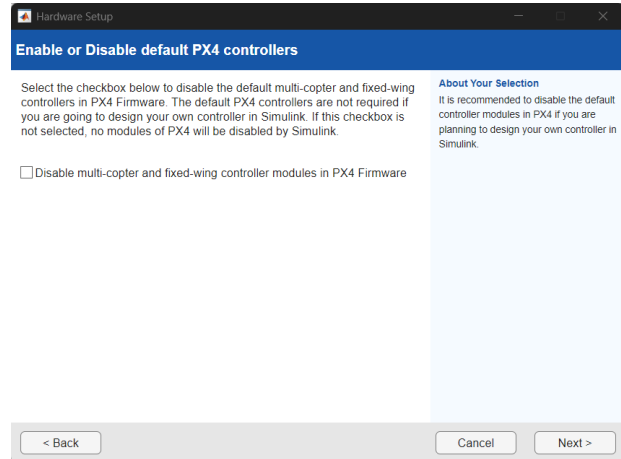

Figure B.8: Screenshot of the disable PX4 control module window.
10. Now, the user must decide whether to disable PX4 control, or leave the control logic enabled. For the research presented in this thesis, the PX4 control architecture was left enabled as seen in Figure B.8. Make a selection and proceed to the next screen.